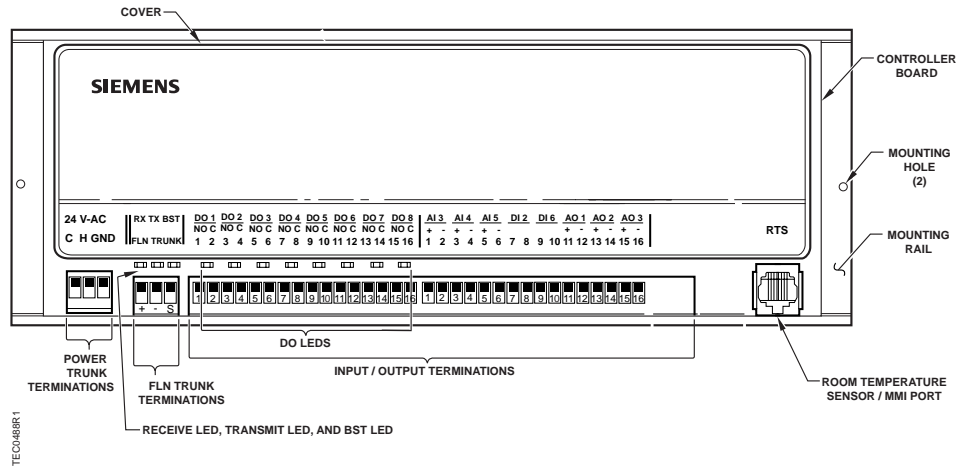

Figure 1. Heat Pump Controller - Multi-Stage.
1. Secure the mounting rail (Figure 1) in the controller's desired location.
6. Plug the room temperature sensor cable into the RTS port (Figure 1).